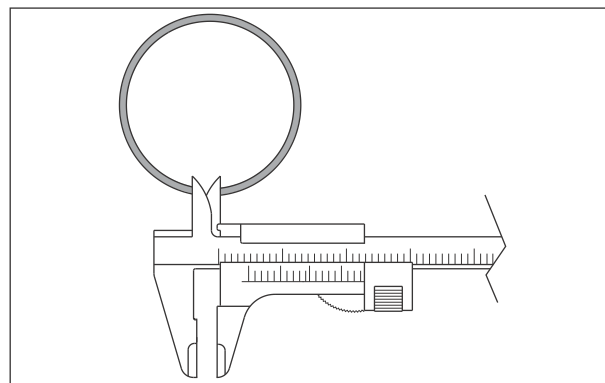

Fig. 3.95
- To know the service condition of the ring check the free end gap using a vernier caliper. (Fig. 3.95)